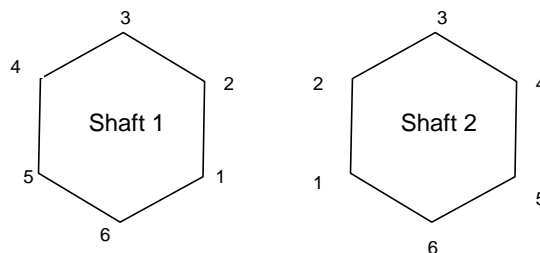

Figure 4-1
1. Place the bottom housing (2) upside down on the work bench and gently push two bearing / seal cartridges (seal end first) into the bores. The ball bearing should be facing you.
3. Turn the bottom housing so that it rests on it's side. Place two excluder plates (14) into position on the top side of the housing.
7. Note that each cutter and spacer cutter has only 1 of the 5 cutting teeth radially in line with one point of the hex ID hole. This tooth is denoted as the Assembly Position (AP).
9. Place a large (L) cutter on Shaft 1 with the AP positioned at Point 6 on the shaft (See figure 4-1.). Place a small (S) spacer cutter on Shaft 2 with the AP positioned at Point 3.